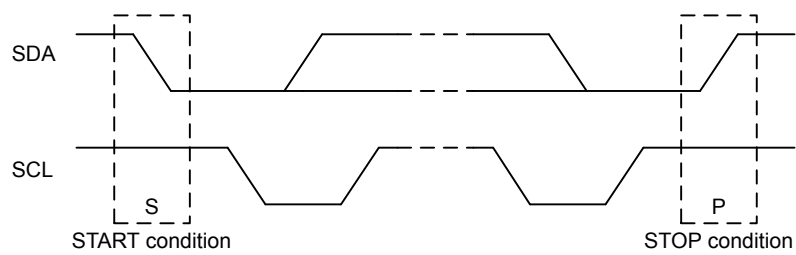

Figure 21.4. I2C START and STOP Conditions
START and STOP conditions are used to initiate and stop transactions on the I²C-bus. All transactions on the bus begin with a START condition (S) and end with a STOP condition (P). As shown in Figure 21.4 I2C START and STOP Conditions on page 561, a START condition is generated by pulling the SDA line low while SCL is high, and a STOP condition is generated by pulling the SDA line high while SCL is high.